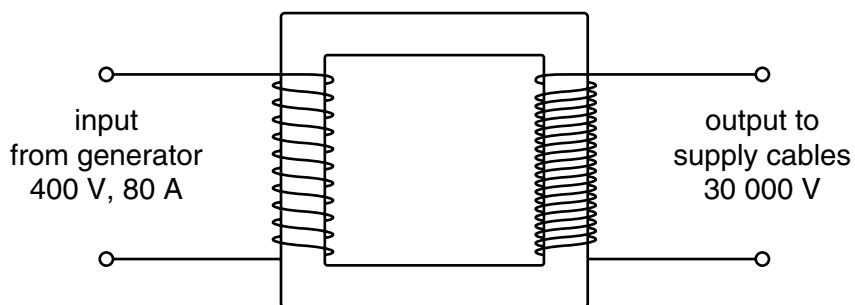

Fig. 4.2
- (b) (i) Fig. 4.2 shows the basic parts of transformer No. 1 which is 100% efficient.
Using the information on Fig 4.2, calculate the current in the supply cables.